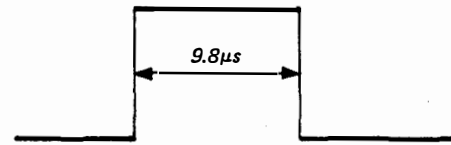

Fig. 23-2
6. Adjust RV1 on the DA board so that the H. BLK pulse width is 9.8μs. Fig. 23-2.